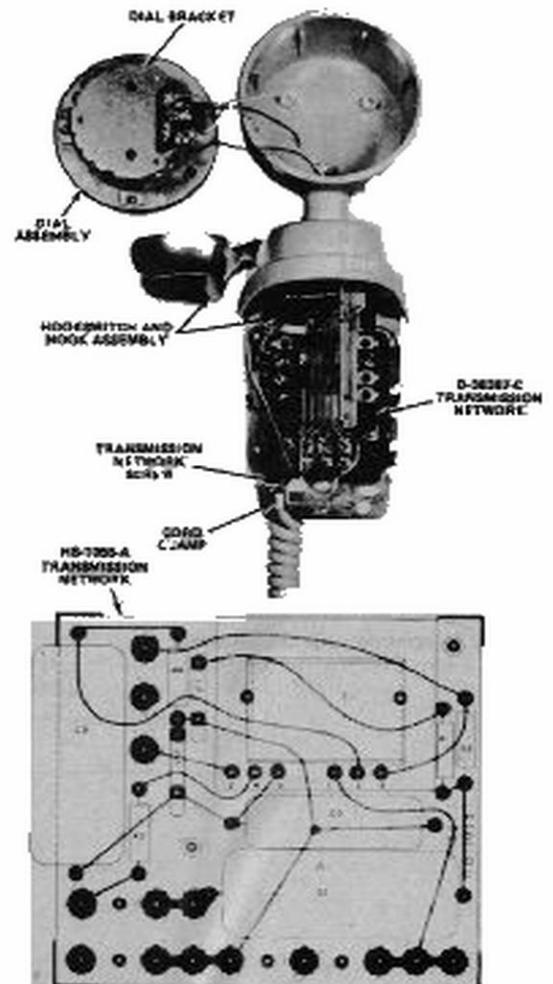
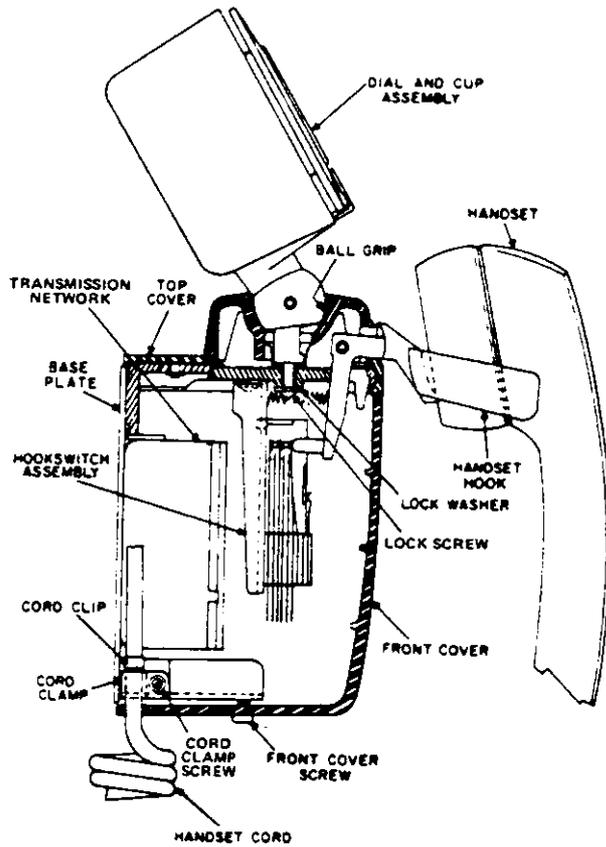

Figure 2. Front View of Type 183 Telephone With Dial Assembly and Housing Removed.
Figure 3. Potted Self-Compensating Type 183 Telephone - Cross Section.
- (c) Loosen the Phillips-head lock screw (Figure 3) sufficiently for the circular die-cast plate (on which the hookswitch is mounted) to be moved downward approximately one-eighth inch.
- (g) Place the hookswitch and hook assembly on the baseplate just above the transmission network (Figure 2). The Phillips-head lock screw (Figure 3) should be loosely installed to allow approximately one-eighth inch clearance before assembly.
- (d) Release the handset cord strain relief clamp (Figure 3) from the telephone baseplate. Release the stay cord hook, and pull out the cord through the cord clamp.
- (e) Replace and hook the handset cord strain relief clamp to the telephone baseplate as shown in Figure 3.
- (f) Route the handset cord to the telephone terminals as shown in Figure 2.
- (c) Remove the transmission network mounting screw from the cable clamp (Figure 3).